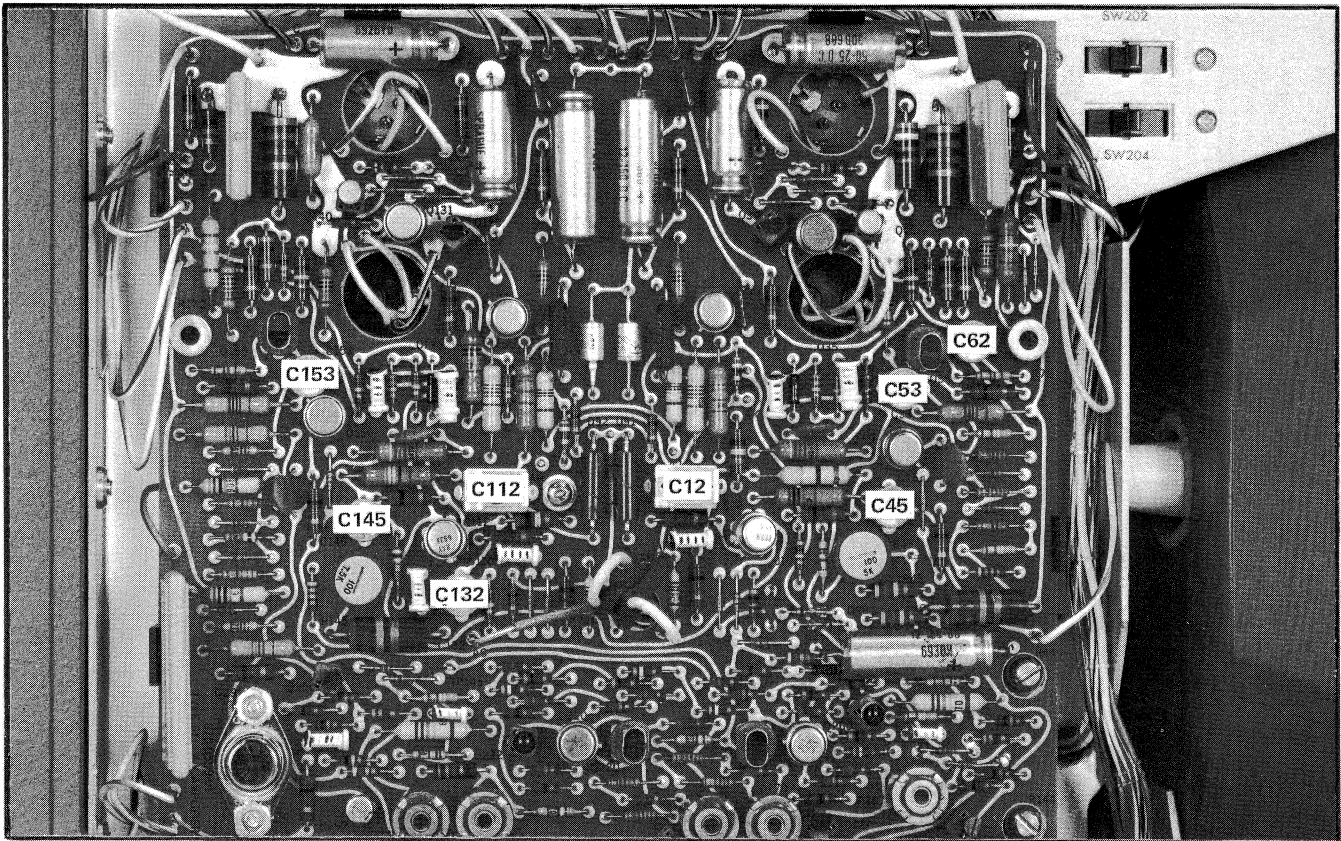

Fig. 5-21. Location of settling time calibration adjustments on the X-Y Amplifier board.
n. ADJUST—C12, C45, C53 and C62 (Fig. 5-21) for minimum settling time using the 3 cm pulse amplitude. Settling time should be equal to or less than 15.5 μs. All the adjustments primarily affect the ending portion of the settling time display. C12 and C45 have the most noticeable effect. C12, if misadjusted, can cause a jittery display.
i. ADJUST—C112, C132, C145 and C153 (Fig. 5-21) for fastest settling time and optimum response using a 3 cm pulse amplitude. Settling time should be equal to or less than 15.5 μ s. All the adjustments primarily affect the ending portion of the settling time display. C112 and C132 have the most noticeable effect. C112, if misadjusted can cause a jittery display.